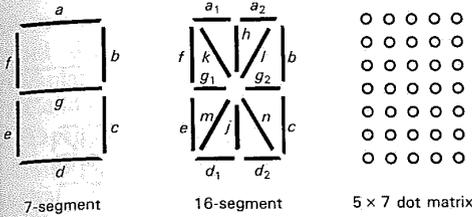

Figure 9.22
*LED displays.* Figure 9.22 shows the choices you have in LED displays. The original 7-segment display is the simplest and can display the digits 0–9 and the hex extension (A–F), albeit somewhat crudely (the hex letters are displayed as